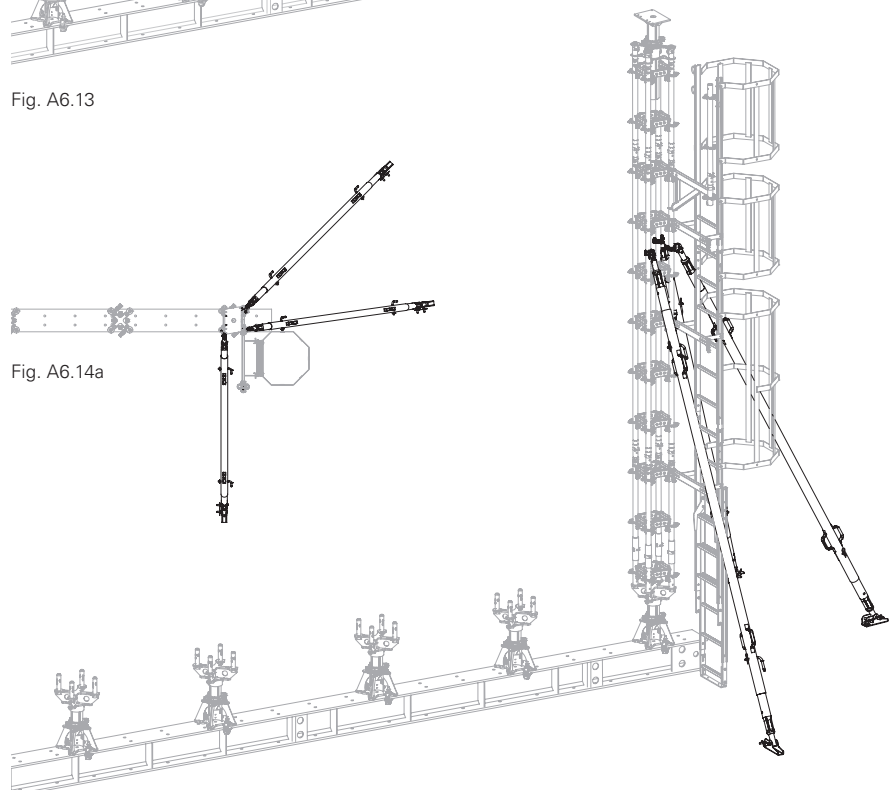

Fig. A6.14
3. Support the Heavy-Duty Prop HD with three Push-Pull Props for the assembly. (Fig. A6.14 + A6.14a) See Section A3 "Bracing with push-pull props"